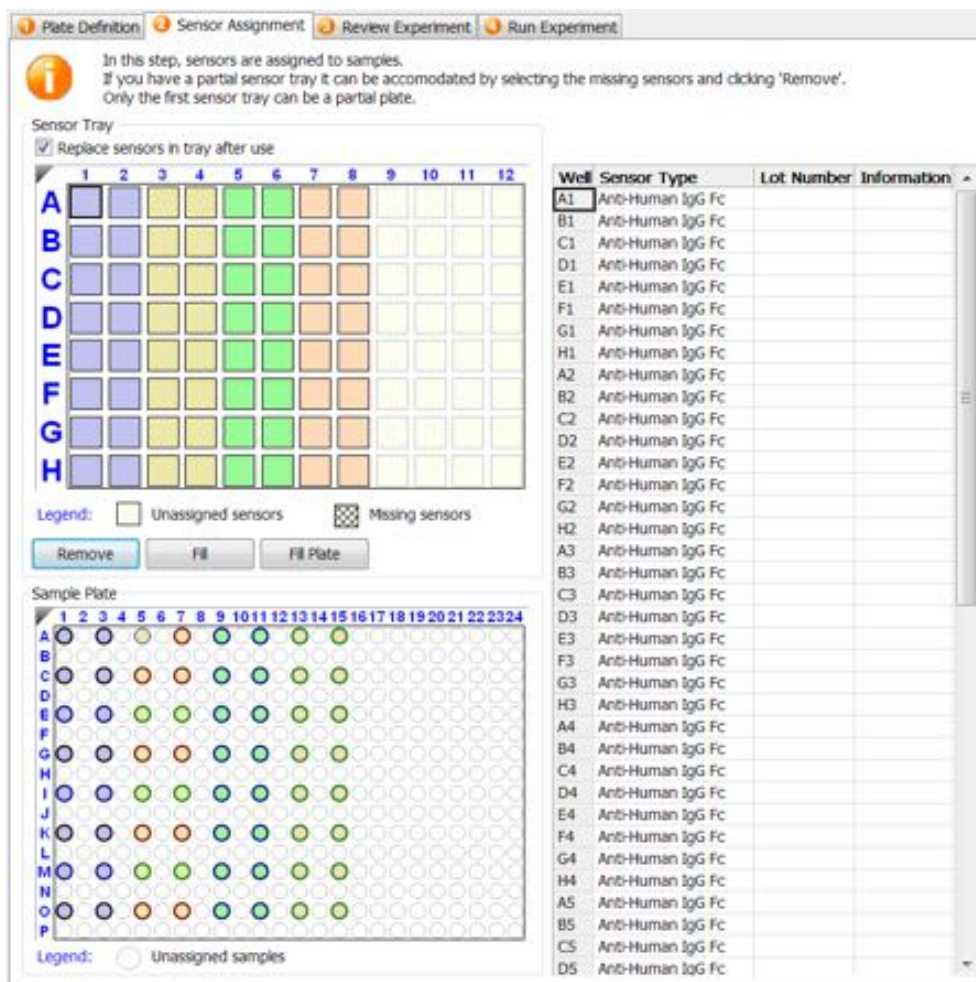

Figure 7-45: Sensor Assignment Window for Basic Quantitation without Regeneration
Click the **Sensor Assignment** tab, or click the  arrow to access the Sensor Assignment window (see Figure 7-45).
- Select a cell in the **Sensor Type** table column, click the down arrow and select a biosensor type from the drop-down list (see Figure 7-45).
The software generates a color-coded **Sensor Tray Map** and **Sample Plate Map** that shows how the biosensors are assigned to the samples by default. In the example shown in Figure 7-45, **one** replicate had been previously selected with the **Multiple Analyte** assay parameter option.